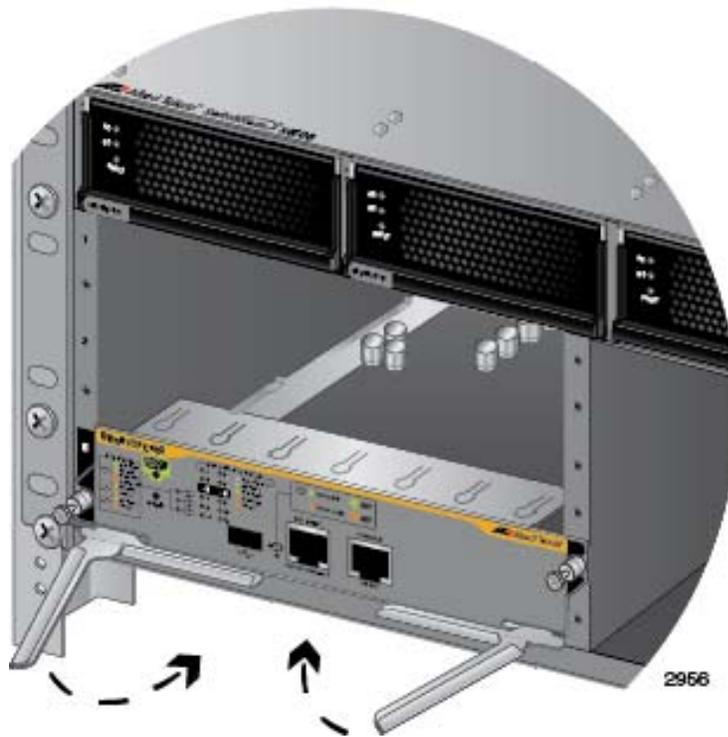

Figure 72. Closing the Locking Levers on the AT-SBx81CFC400 Controller Fabric Card
8. When you feel the card make contact with the connector on the backplane of the chassis, carefully close the two locking levers on the front panel of the controller card to secure it in the chassis, as shown in Figure 72 on page 116.